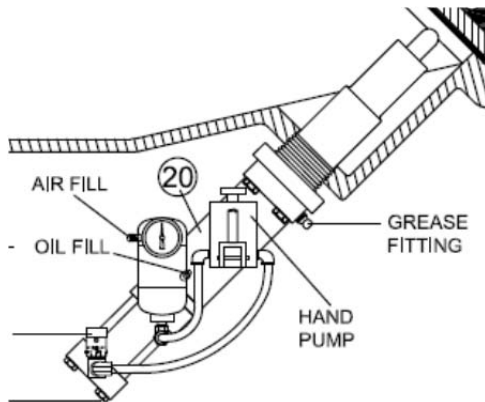

FIGURE 7. DASHPOT WITH HANDPUMP
3. Replace the (2) rod wipers and o-ring seal.
**HANDPUMP OPERATION:** The Dashpot may be equipped with a hand pump as shown in Figure 7. The hand pump can be used to drive the valve partially open using hydraulic oil pressure.